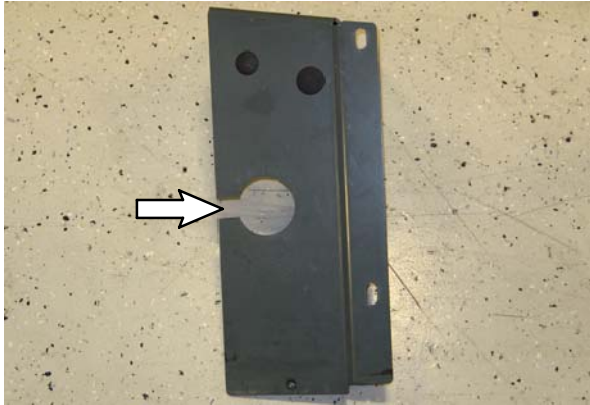

FIG. 9
38. Cut approximately 1" from the mounting bracket. Refer to Fig. 9.